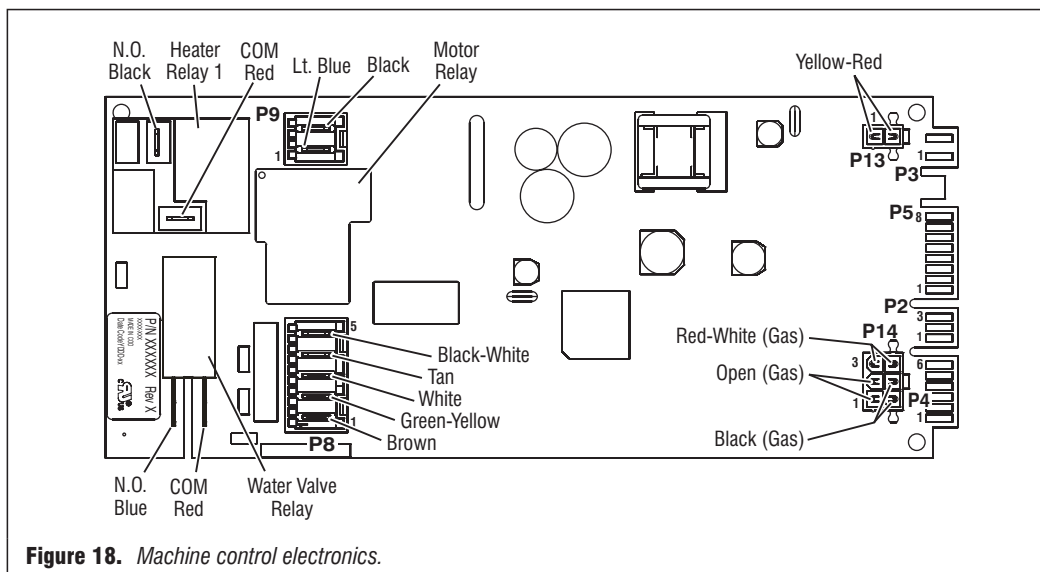

Figure 18. Machine control electronics.
1. Perform steps in Accessing & Removing the Electronic Assemblies, at right, and check that the wires are connected to the water valve relay on the machine control electronics. See figure 18, page 10.
3. Remove all the wire connections to the machine control electronics. See figure 18.